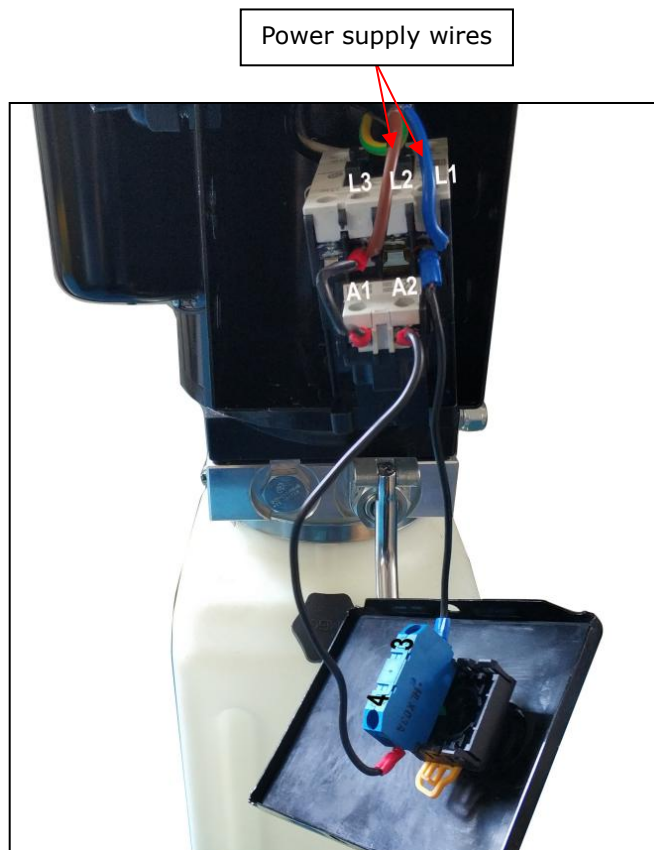

Fig. 29
2. Connection step (See Fig. 29)